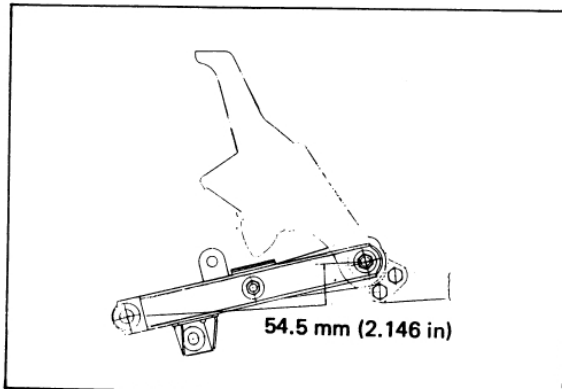

Fig. FA-26 Installing lower link
(2) Install lower link on lower link mounting bracket, and tighten lower link spindle nut at the position of lower link shown in Fig. FA-26.